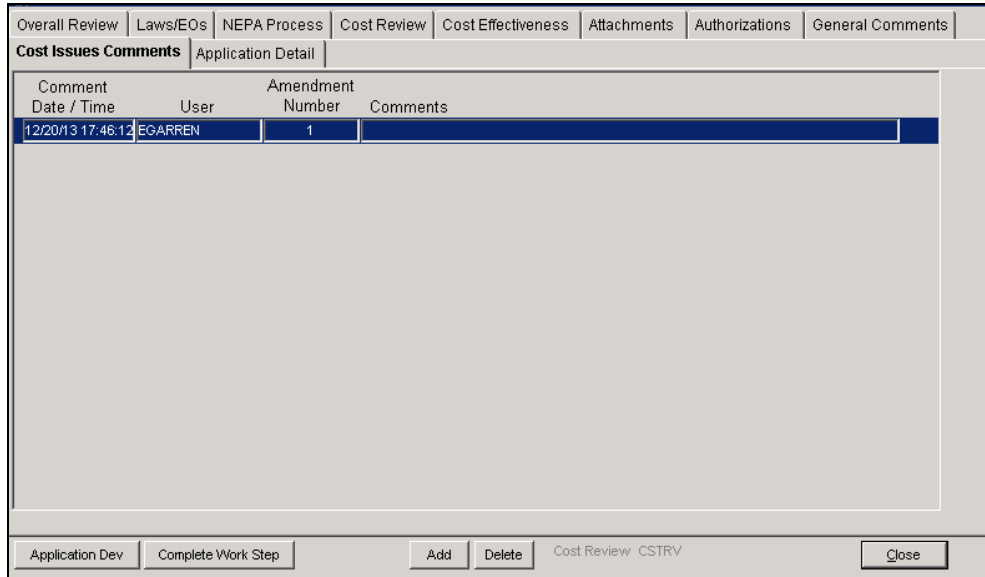

Figure 7-72: Mitigation > Projects > Eligibility Determination > Cost Issues Tab
13. On the bottom middle part of the **Cost Issues Comments** tab, click the **ADD** button. A new row for comments is added, with your User Name and the Comment Date/Time displayed (Figure 7-72).